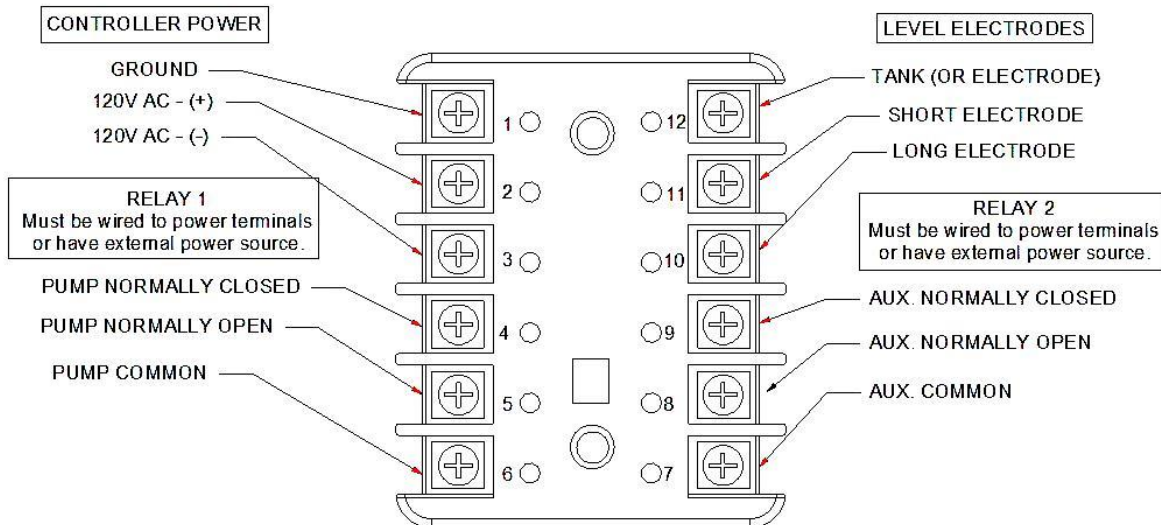

Figure 2. 12-pin Base Terminal Connections for LL3.
3.2.1 The LL Series Controllers are inserted into a 12-pin pre-wired mounted base, (part A26-22) to establish all electrical connections. Figures 2 through 5 show the connections at the base for all models, and Section 4.1.2 describes operation and level control.